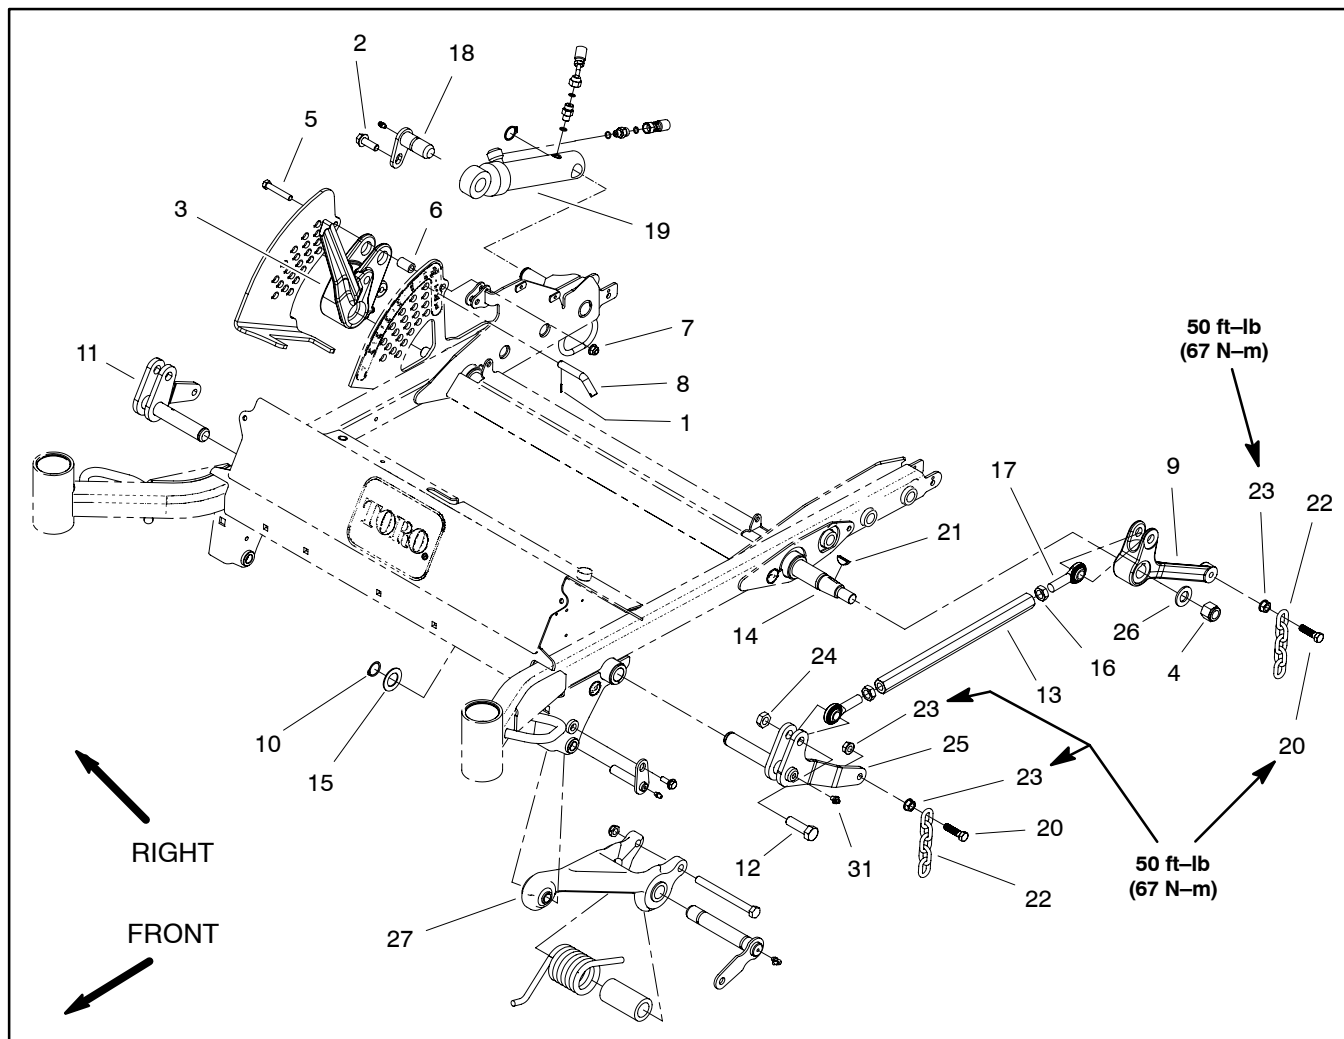

Figure 21
Disassembly (Fig. 21)
4. Remove lift arm components as necessary using Figures 21 and 23 as guides.
Assembly (Fig. 21)
2. Install lift arm components as necessary using Figures 21 and 23 as guides.